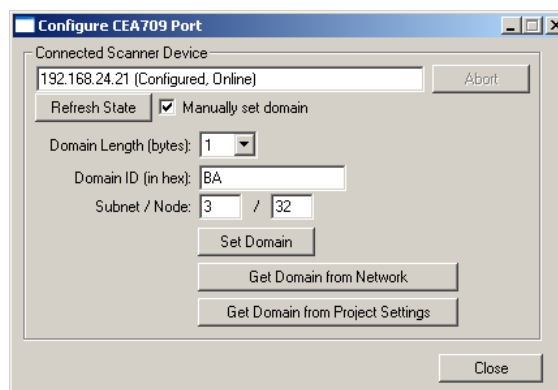

Figure 91: Configure CEA-709 port dialog.
4. If the device has not been installed with a network management tool (e.g. LNS-based tool), press the **Configure CEA709 Port** button. This opens the device install dialog as shown in Figure 91.